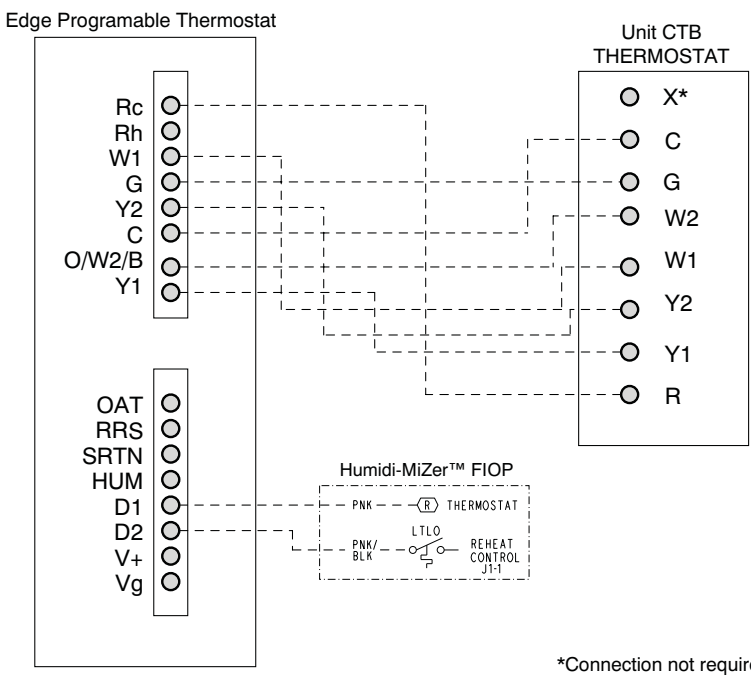

Fig. 43 - Typical Rooftop Unit with Humidi-MiZer Adaptive Dehumidification System with EDGE Pro Thermidistat Device
3. The Thermidistat has dry contacts at terminals D1 and D2 for dehumidification operation (see Fig. 43). The dry contacts must be wired between CTB terminal R and the PNK/BLK lead to the LTLO switch with field-supplied wire nuts. Refer to the installation instructions included with the Carrier Edge Thermidistat device (Form 33CS-74SI or latest) for more information.